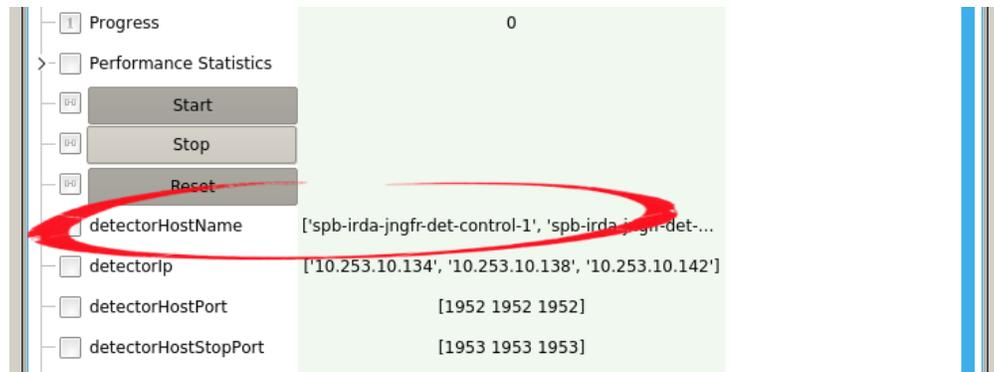

Fig. 5.7: The list detectorHostname contains the aliases of the microcontrollers on each JUNGFRAU board
1. a list of the microcontroller aliases can be found in the `detectorHostName` list in the CONTROL device (see Fig. 5.7); connect via telnet the microcontroller on each JUNGFRUA module using that aliases, e.g.: from command line type: